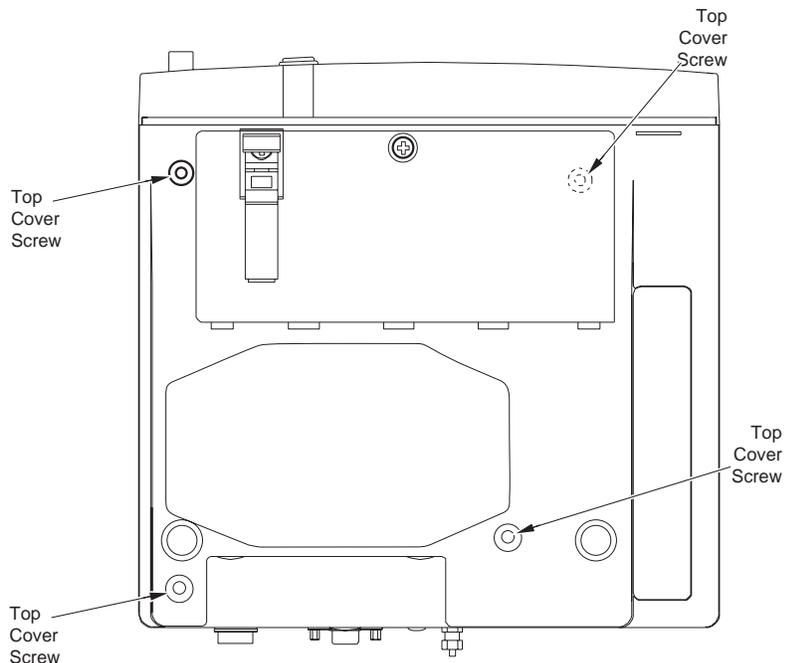

Figure 7-2: Top Cover Removal
3. One of the four Phillips screws that retains the monitor top cover is located beneath the battery (see Figure 7-2). Turn the monitor upside-down. Perform the battery removal procedure at “Battery Removal” on page 7-2.